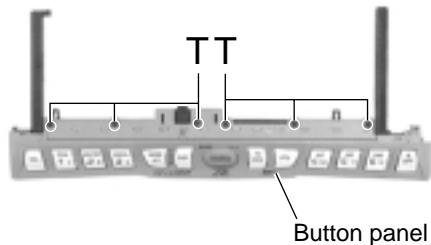

Fig.20
■ Removing the operation switch board (See Fig.20 and 21)